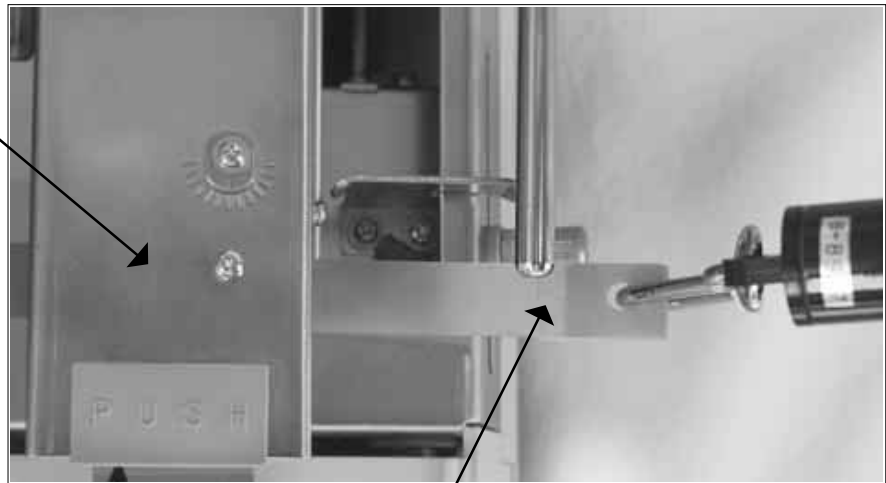

Fig. 5-13
2.	Attach a strip of 20mm wide liner to the end of the tension gauge. Under the media cover, place the strip between the pressure rollers at one end. Gradually pull the tension gauge and measure the friction. Repeat at the opposite end of the rollers. Fig 5-13